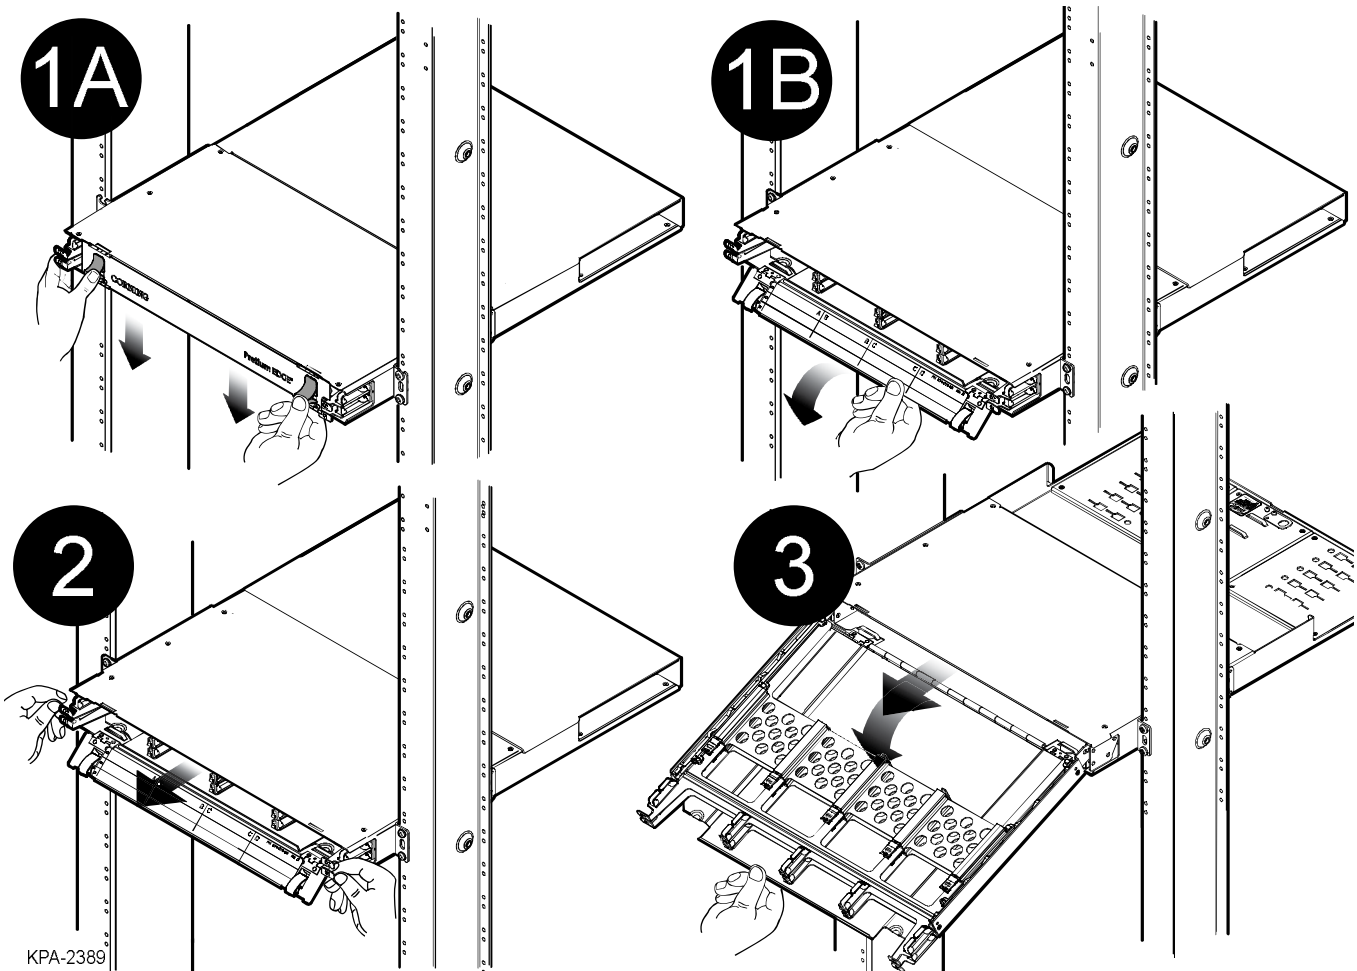

Figure 18 — Lower Tilt-down Drawer
- Step 2: Using tabs on the side of the drawer, lift and pull out drawer horizontally until reaching hard stops (Figure 18).